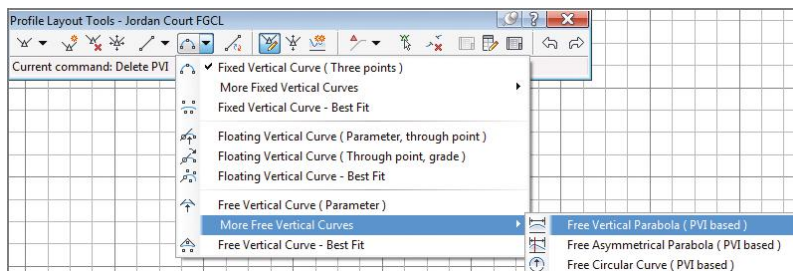

FIGURE 7.9 Clicking the Free Vertical Parabola (PVI Based) command
9. On the Profile Layout Tools toolbar, click the black triangle to the right of the curves button to view the curves menu. Select **More Free Vertical Curves > Free Vertical Parabola (PVI Based)**, as shown in Figure 7.9.